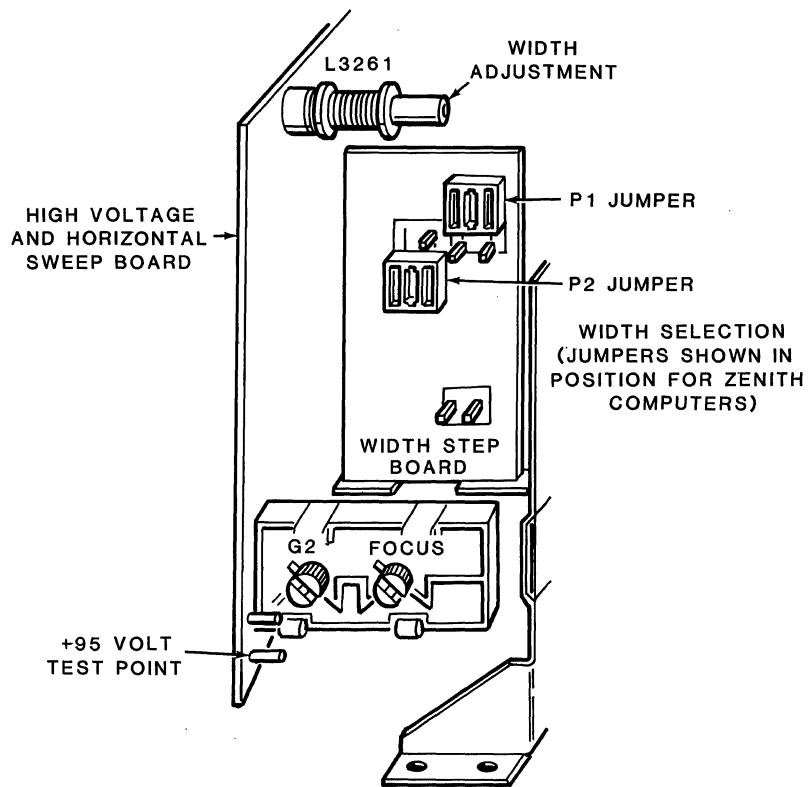

Figure 6
2. Adjust G2 on the sweep board (see Figure 6) until the raster just appears.
Horizontal centering control R3441 (located on the main board) and horizontal width LX3261 (located on the sweep board) should be adjusted under low-light conditions. (See Figure 6).